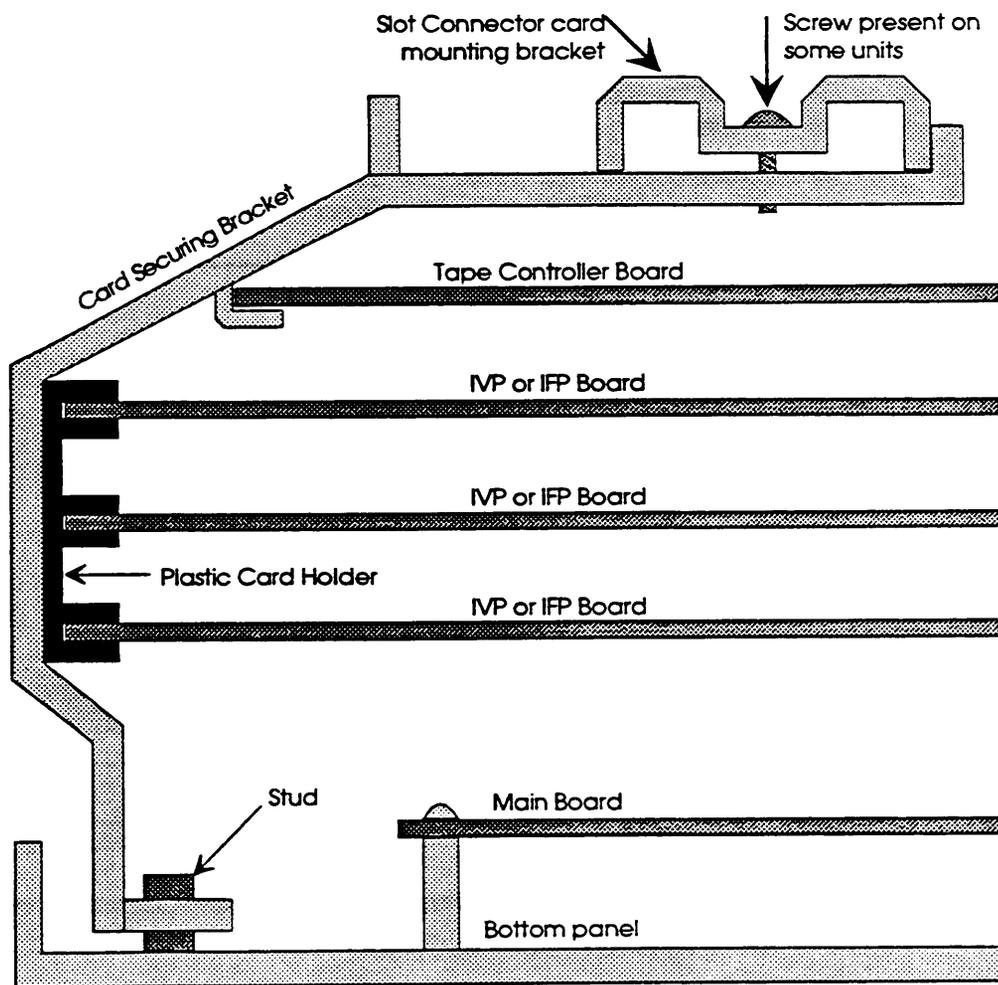

Figure 3-4. Replacing Card Securing Bracket
5. When replacing the Card Securing Bracket, carefully line up and insert the expansion boards into the bracket as shown in Figure 3-4.